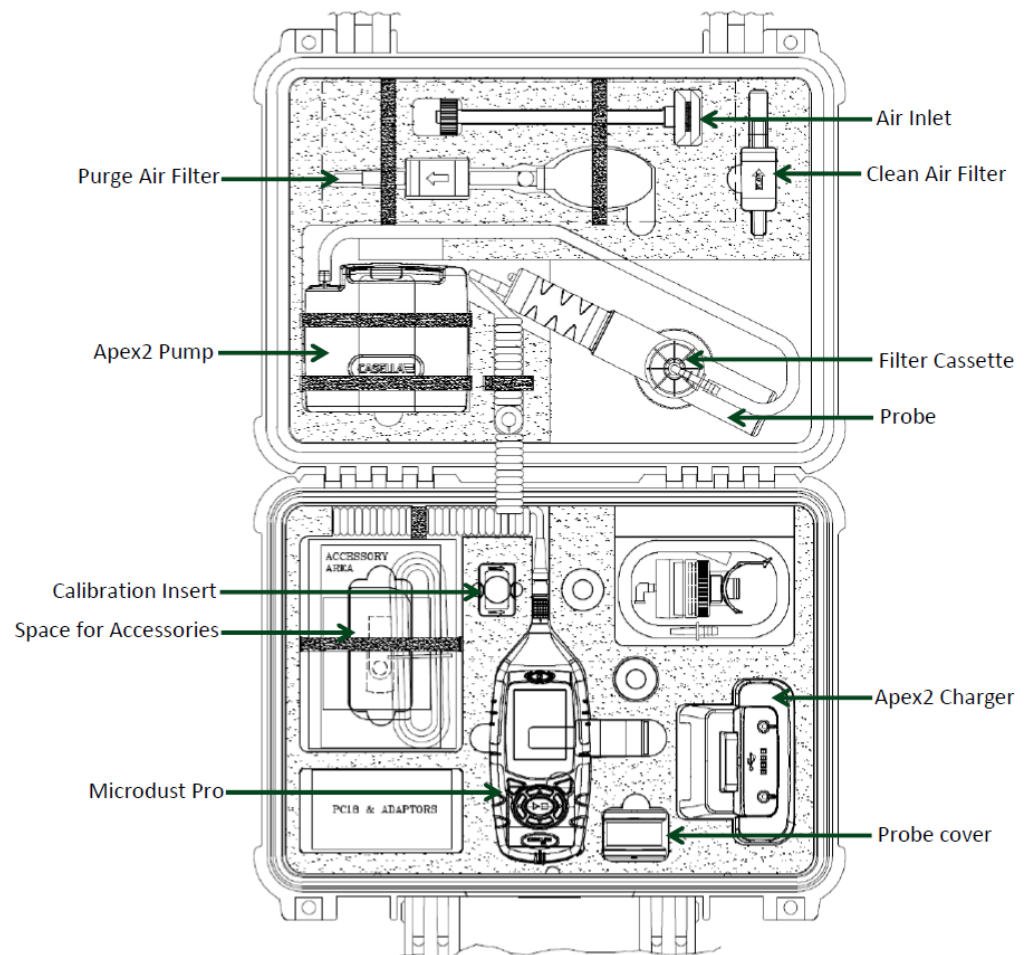
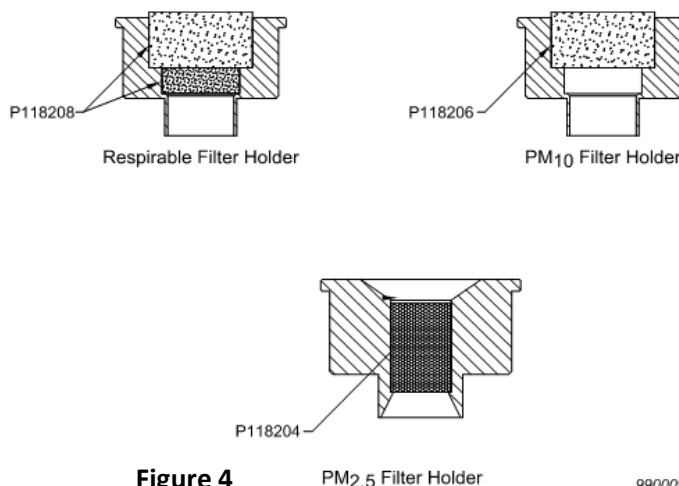
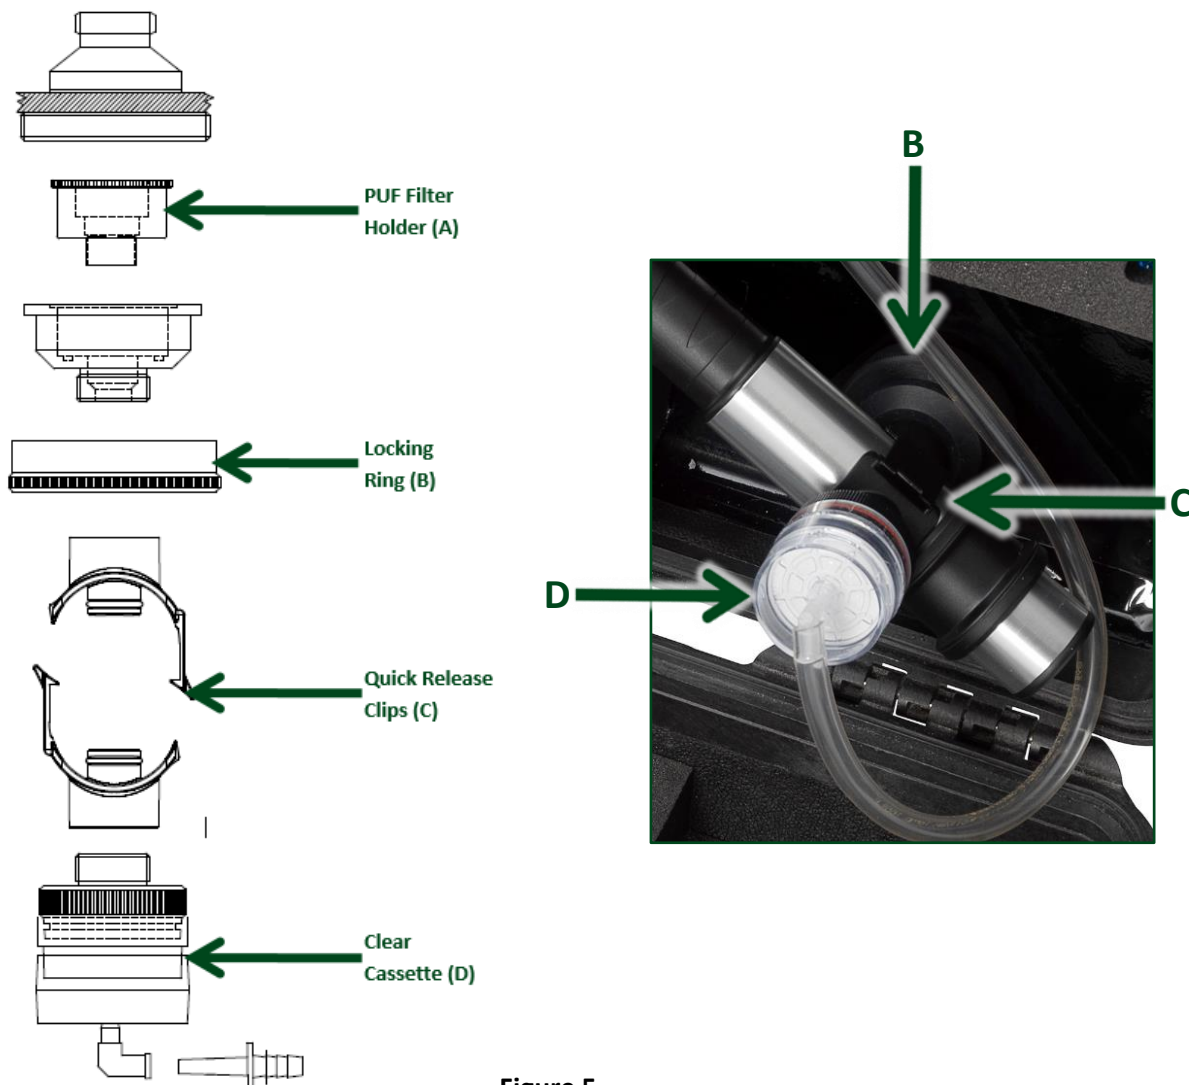

Figure 2
Figure 4
Figure 5
Connect the Microdust probe into the Adaptor (Figure 5). When locked correctly into position, the complete assembly is prevented from rotating or moving laterally on the Probe (see Figure 4). The body of the probe should be aligned so that the cable from the probe is aligned as shown in Figure 2.
The PUF filters should be carefully inserted or removed from their respective cassettes using clean tweezers and plastic gloves. Avoid subjecting the filters to physical damage, creasing or folding. Filters should be loaded into the relevant housing as shown in Figure 4.
In Figure 5 below, the PUF filter holder is shown (A). To remove it unscrew the locking ring (B). It can be easier to remove the Microdust probe first by releasing the quick release clips (C). Note the clear cassette (D) can be removed to fit GFA filters as necessary.
2. Insert the PUF filter foam(s) and in line sample filter (if required) (see Figure 4 & 5).